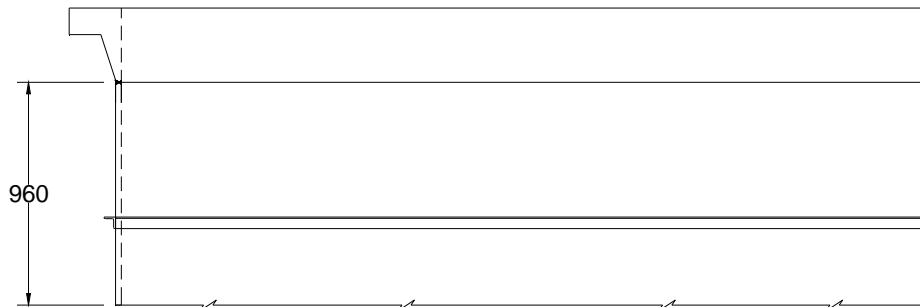

Fig. 9. Stress relieving- shell with flange
- 7.2.1. Thermal stress relieving shall be carried out after welding of shell flange to 7th Shell course as shown in the Fig 9.